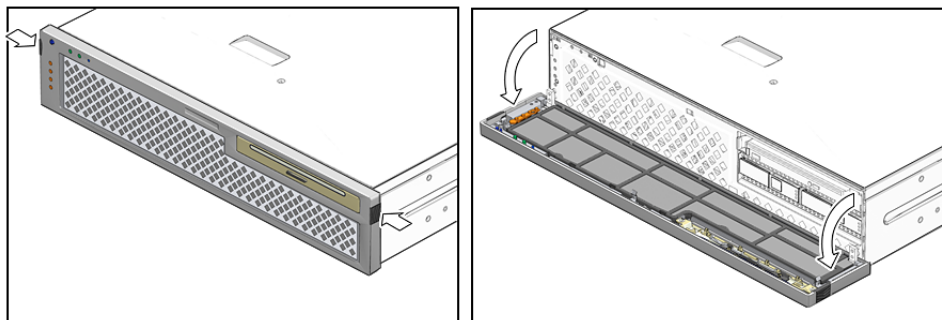

FIGURE 3-16 Opening the Bezel
1. Press the green tabs on either side of the bezel and pull the bezel forward and down (FIGURE 3-16).